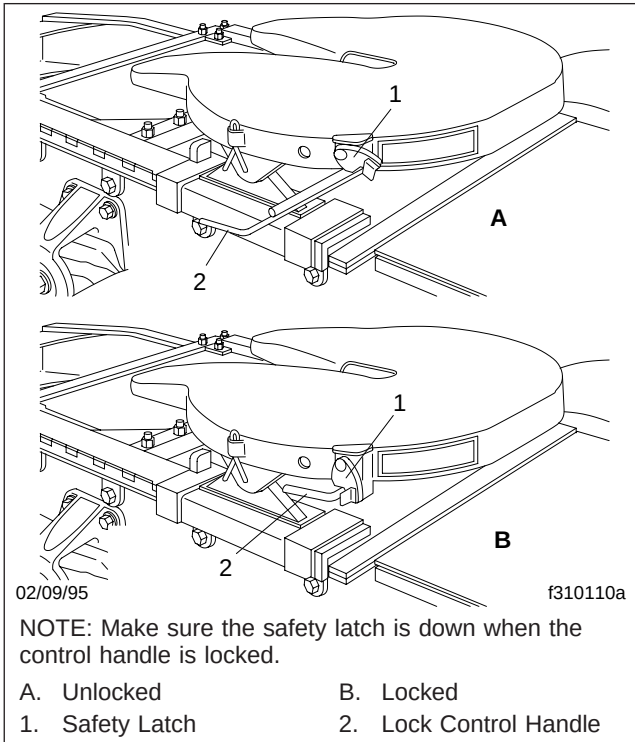

Fig. 10.17, Fontaine Fifth Wheel, Locking and Unlocking
is down over the lock control handle. See **Fig. 10.17**. This will hold the control handle in the locked position.
6. Release the kingpin locking mechanism by lifting the safety latch and pulling the lock control handle to the unlocked position. See Fig. 10.17.